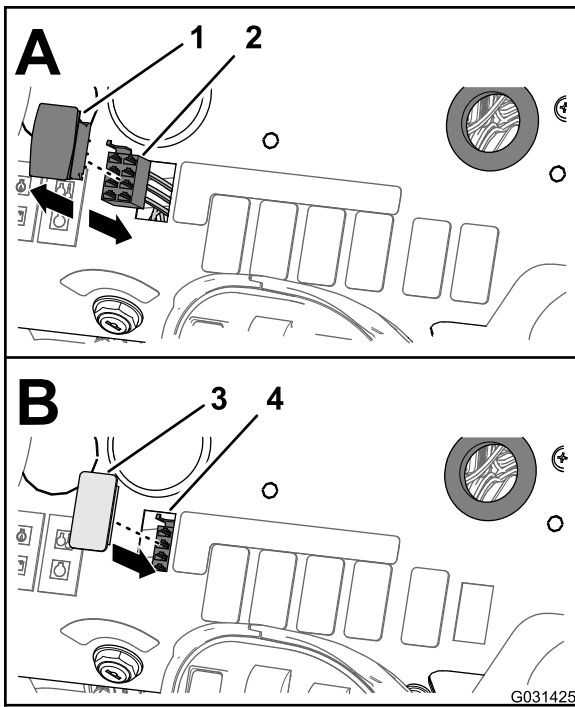

Figure 60
1. From under the dash panel of the machine, squeeze the lock tabs of the rate-control switch together and push up the rate-control switch out of the dash panel (Figure 60).
2. Disconnect the 8-socket connector of the front harness of the machine (labeled RATE SWITCH) from the 8-pin connector of the switch (Figure 60).
4. Align the switch plug to the opening in the dash panel where you removed the rate switch (Figure 60).
5. Insert the switch plug into the dash panel until the plug snaps into the panel securely (Figure 60).